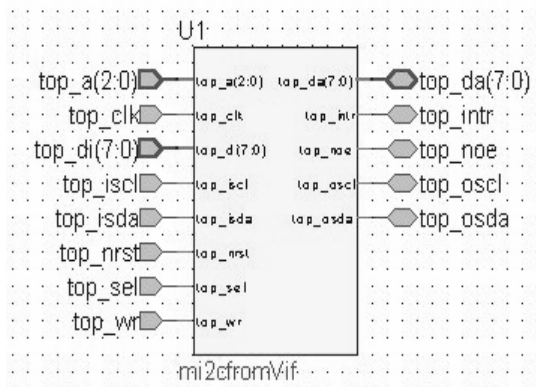

Figure 6. Block Diagram of the Wrapper mi2c.
- Attach the appropriate input and output terminals to the block diagram. The user should use the bus input and output terminals for any std_logic_vector. An example of the final block diagram is shown in Figure 6.